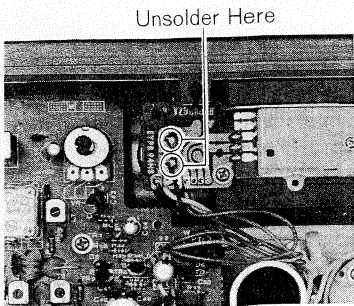

Fig. 4
- 4. Unsolder the terminals of clock motor, as shown in fig. 4.